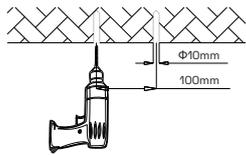

Figure 3
Step1. Mark with a mark pen or sharp tool on the mounting surface and drill. (Figure 3)